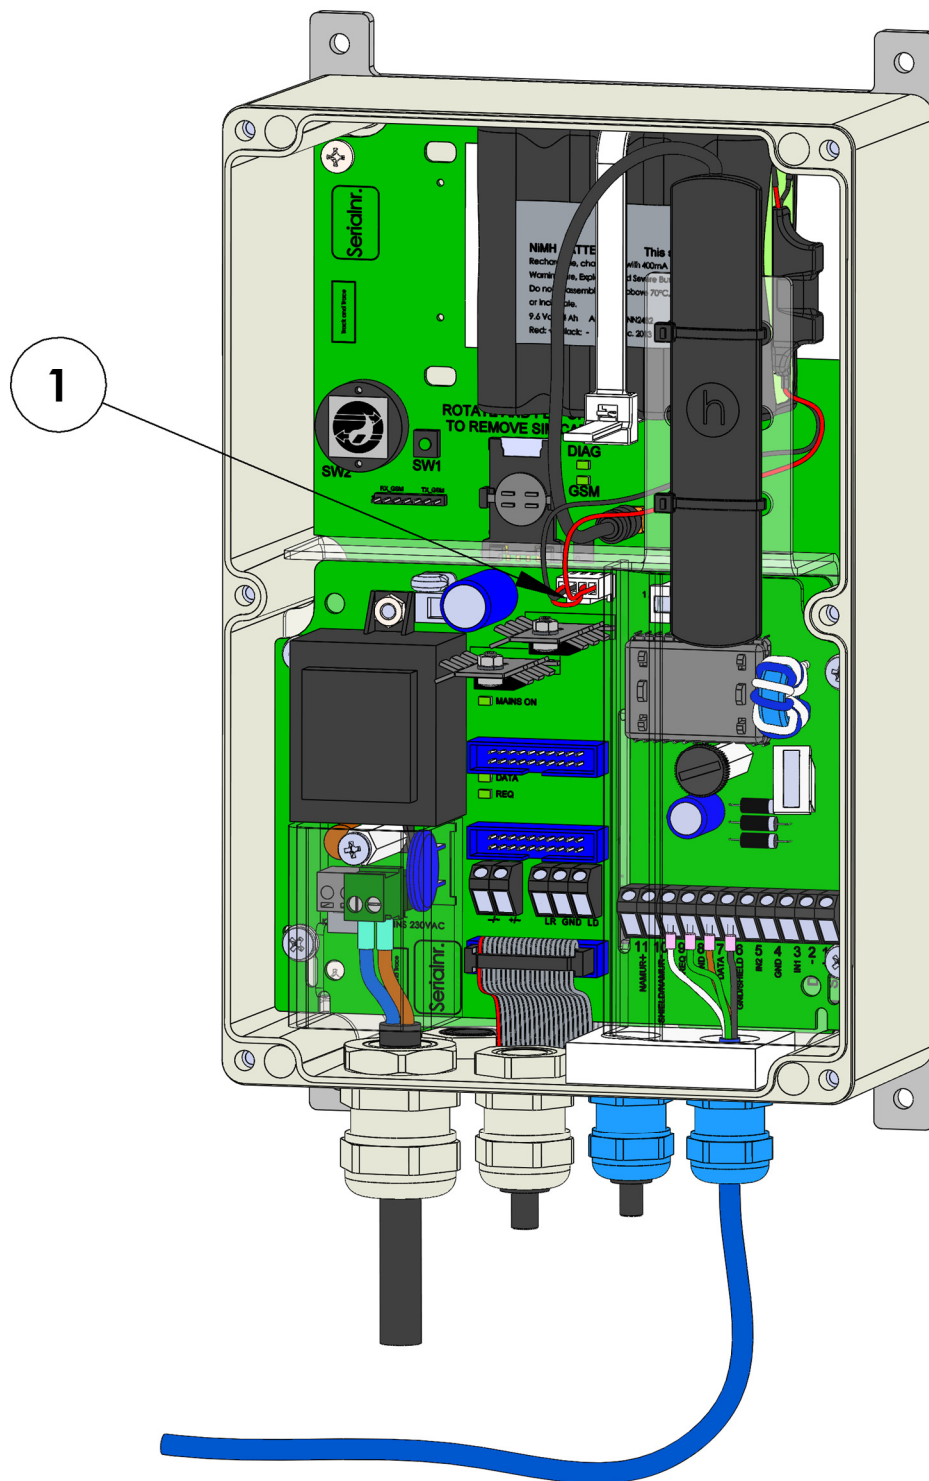

Figure 10. Version N35
At delivery the back-up battery is disconnected. Connect the back-up battery at the above mentioned position after the UNILOG 300 is connected to mains, see pos. 1, figure 10.